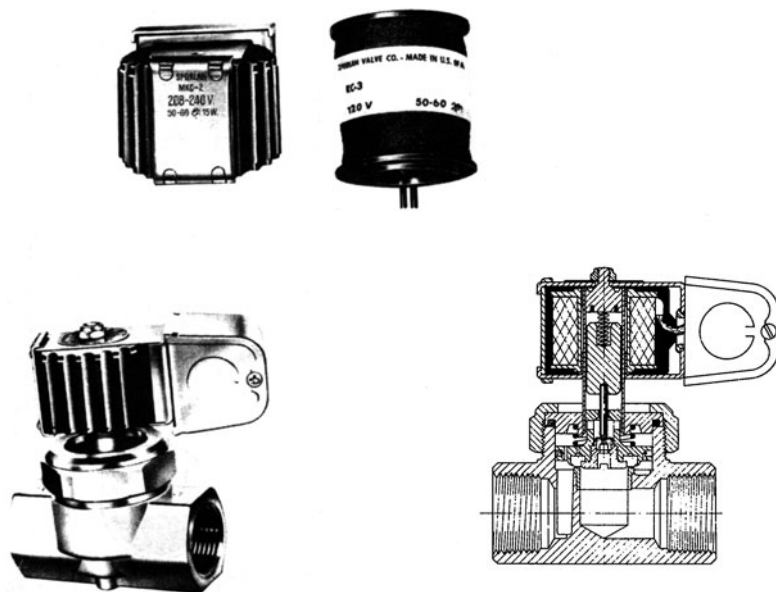

Figure 5-22 Solenoid coil and step-down transformer. (Courtesy of Sporlan)
The primary purpose of an electrically operated solenoid valve is to control automatically the flow of fluids, liquid, or gas. There are two basic types of solenoid valves. The most common is the normally closed (NC) type, in which the valve opens when the coil is energized and closes when the coil is de-energized. The other type is the normally open (NO) valve, which opens when the coil is de-energized and closes when the coil is energized (see Fig. 5-22).